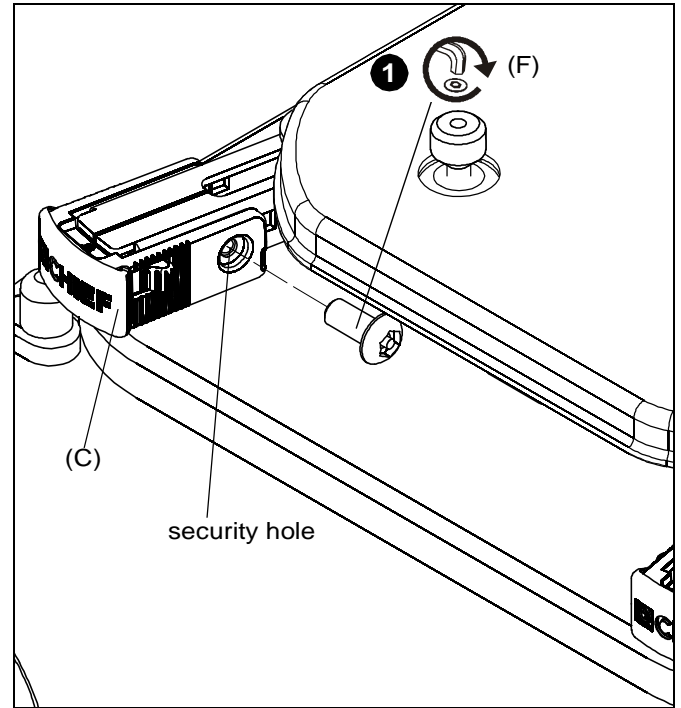

Figure 10
1. Install #8-32 x 3/8" button head security screws (F) into security holes on SSBU/SSMU legs. (See Figure 10)